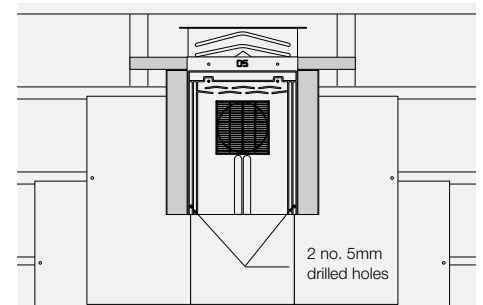

Fig. 14 – Secure underlay support to support batten
- 4 Position the In-line slate ventilator centrally on the slate coursing below and level with adjacent slates. Drill two 5mm holes in the ventilator, ensuring adequate clearance to accommodate the copper disc rivet shanks for securing the tail of the overlapping slates (Fig. 14).